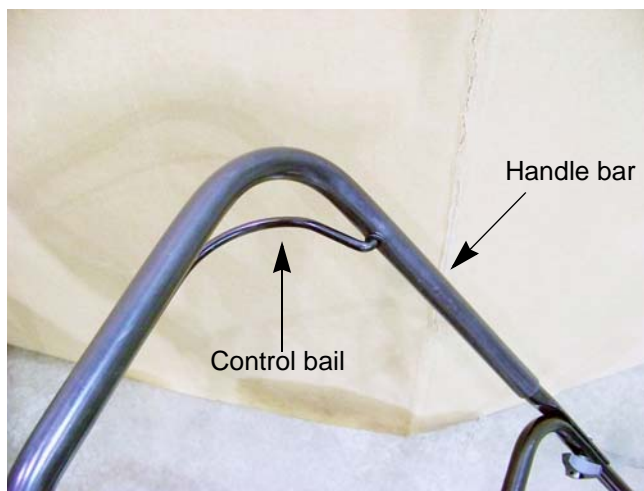

Figure 2.17
2. Slide the control bail out of the hole on the left side of the handle bar. See Figure 2.17.